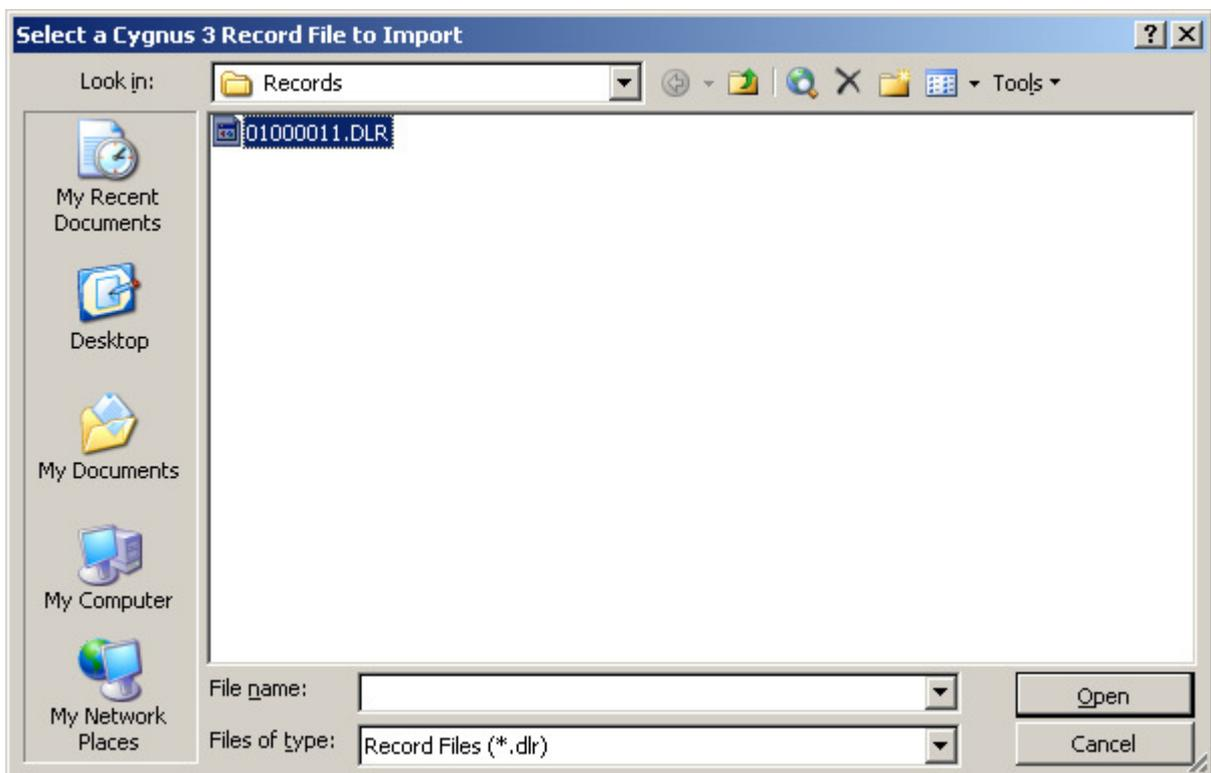

Fig. 11.14. Select a Cygnus Record File to Import.
3. You should see the **Select a Cygnus Record File to Import** dialog, fig. 11.14.